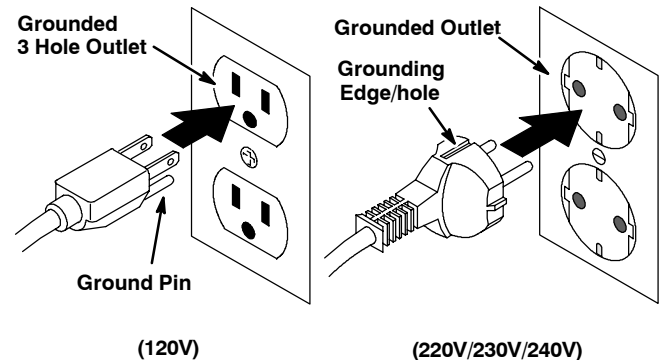

FIG. 1
3. Plug power cord into grounded wall outlet (Figure 1).